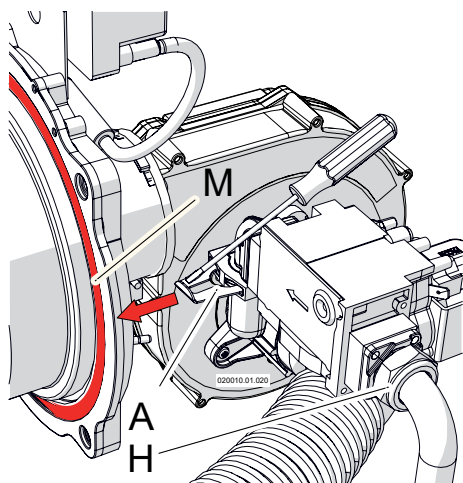
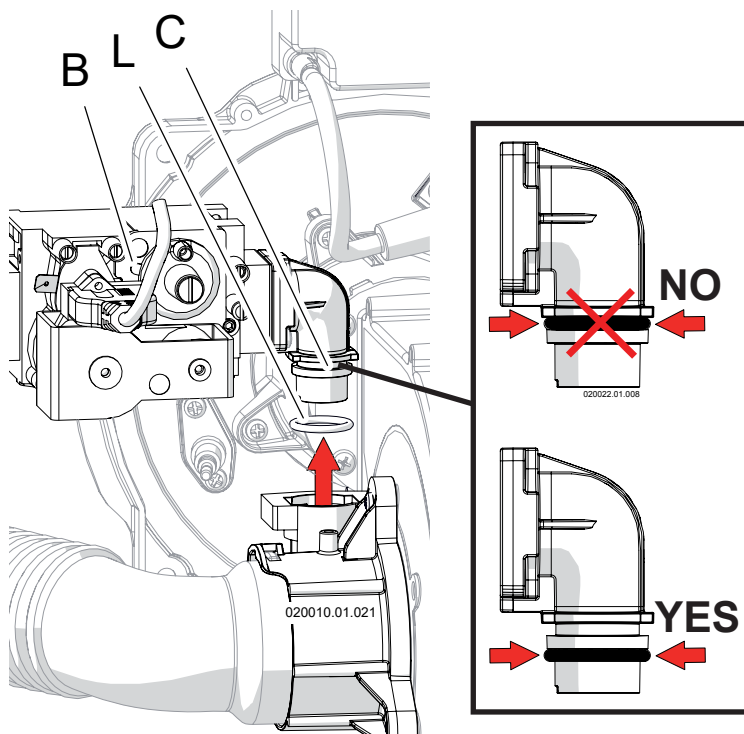

Figure 13-3 Dismantle the gas valve
Figure 13-4 Lift the gas valve
- 4 - Unscrew nut "H" as per Figure 13-3;
- 5 - With the help of a screwdriver, remove spring "A" (see Figure 13-3);
- 6 - Remove the gas valve from its site "C" as per Figure 13-4 (take care attention to o-ring "L" of Figure 13-4);
- 8 - Reinstall the gas valve, paying close attention to the o-ring "L" of Figure 13-4 and to the gasket between gas valve and nut "H" of Figure 13-3;
- 9 - Insert again the spring "A" of Figure 13-3;
- 10 - Right nut "H" of Figure 13-3;
- 12 - Check for any gas leaks on nut "H" of Figure 13-3;